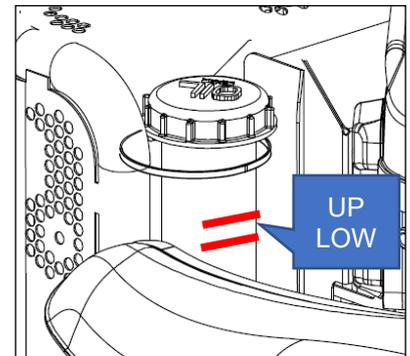

Figure 23
#### HST OIL LEVEL (FIGURE 23)
- If not, add oil to reach "UP" mark in oil tank(Figure 23).